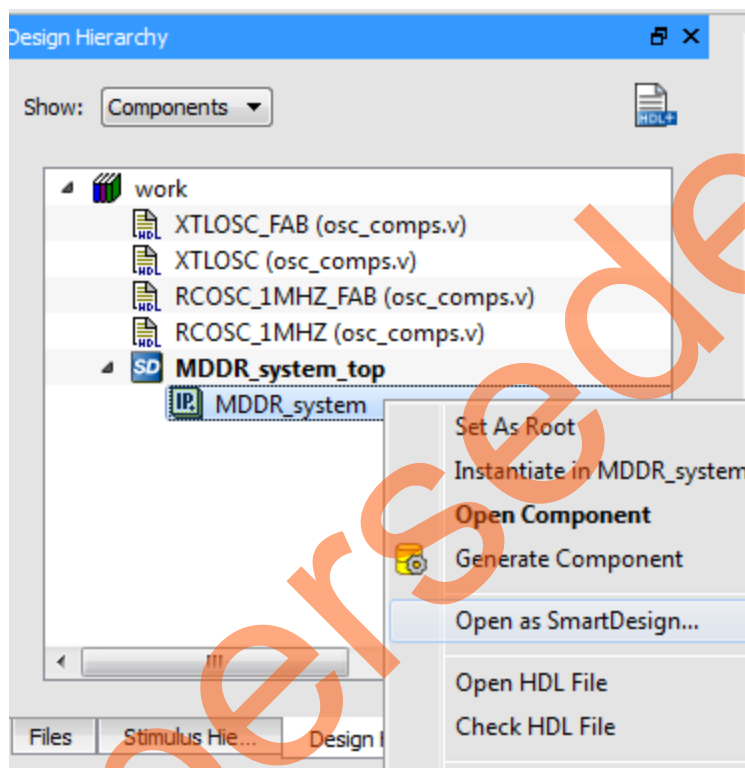

Figure 10. Open as SmartDesign Option
2. Right-click the **MDDR_system** and select **Open as SmartDesign**, as shown in Figure 10.